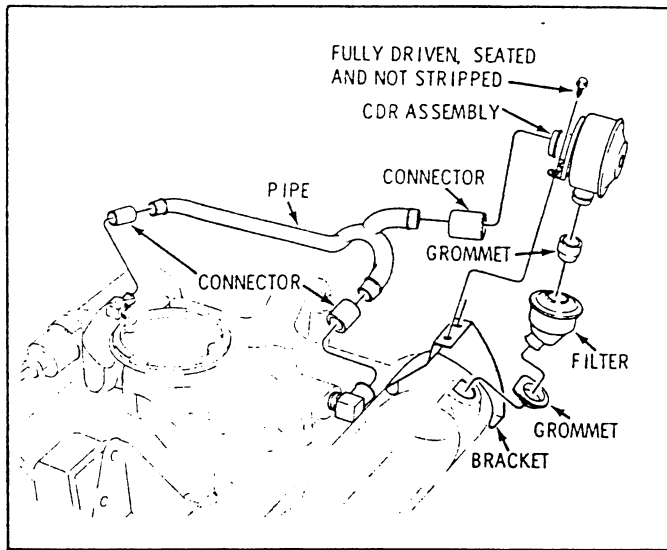

Fig. 13 Crankcase Ventilation System
- Crankcase depression regulator valve (Fig. 13)